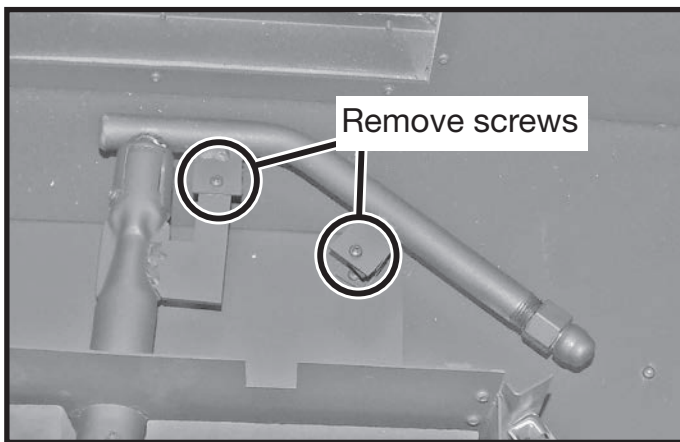

Figure 32: Lower burner orifice location.
2. Remove the two screws securing the manifold assembly to the lower burner and remove tube (Figure 32).